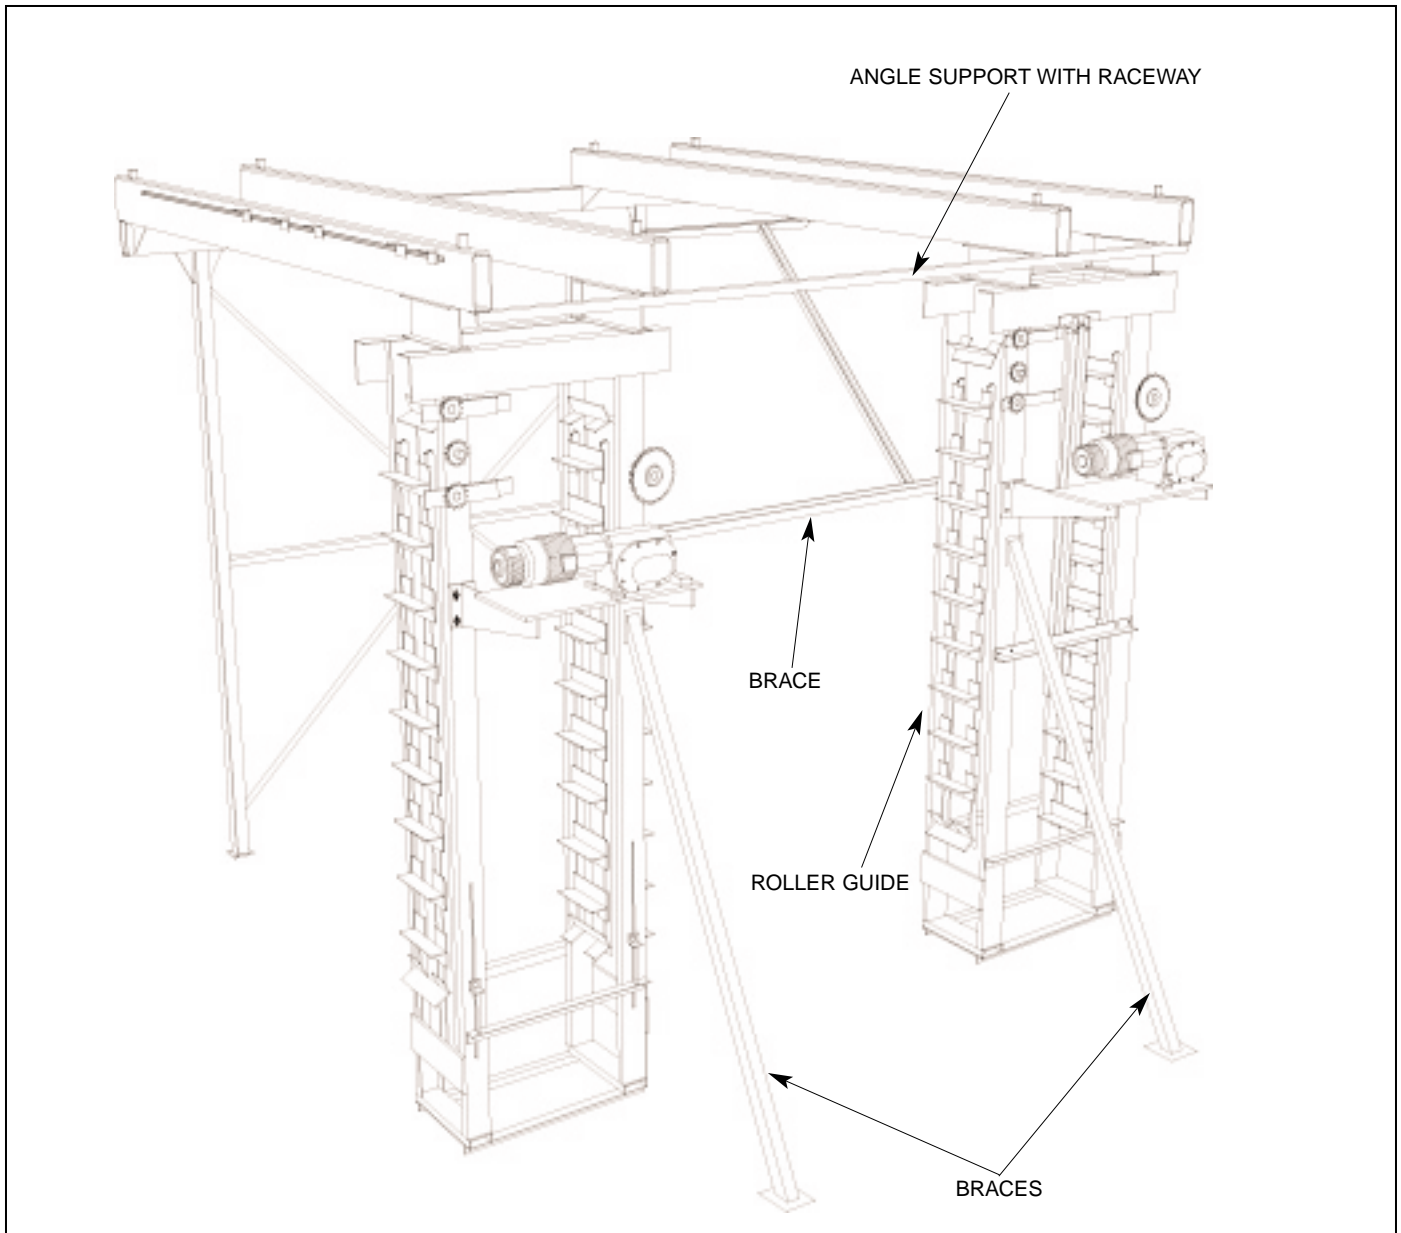

Figure 3.14 ANCHOR BRACES, ANGLE SUPPORT WITH RACEWAY AND ROLLER GUIDES.
5. Anchor braces (figure 3.14).
6. Anchor angle support with raceway (figure 3.14).
7. Secure roller guides to Accumulator frames as shown in figure 3.14.